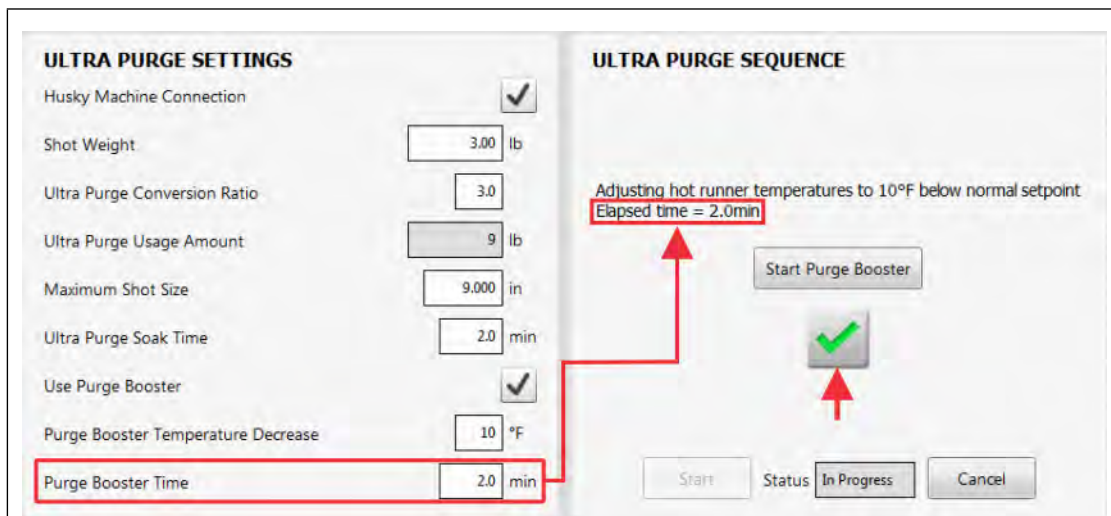

Figure 13-51 Purge Booster Time Completes
20. When the Purge Time completes, touch the green check mark button to continue (refer to Figure 13-51.)